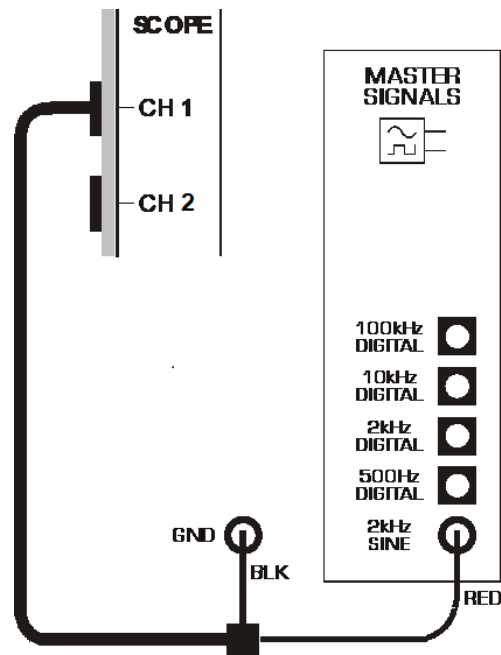

Figure 1: 2kHz sinewave to scope patching diagram
1. Connect the set-up shown in Figure 1 below.